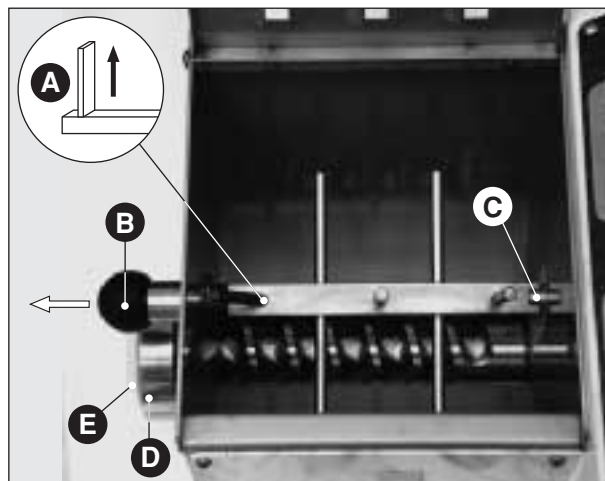

Fig. 13
- Mixer: make sure the external shovel is in the upper vertical position (**Fig. 13 A**) (only this position allows the disassembling of the piece).
Disassemble the mixer, pull the handle (**Fig. 13 B**) until the mixer comes off; take the square shaft away from its place (**Fig. 13 C**) and at the same time turn the external end upwards. If you want to assemble the piece follow these instructions vice versa. Line the central point of the shaft with the peg of the moving support; then, leave the handle.
- Ring nut: (**Fig. 13 D**) and drawplate (**Fig. 13 E**): unscrew the ring nut by hand, avoiding pieces falling when the ring nut comes out of its place, in order to avoid causing damage both to people or to the pieces themselves.
- Archimedean screw: (**Fig. 13 F**): after disassembling the ring nut and the drawplate, the Archimedean screw can easily be taken off from the machine by pushing its spiral from the internal end.